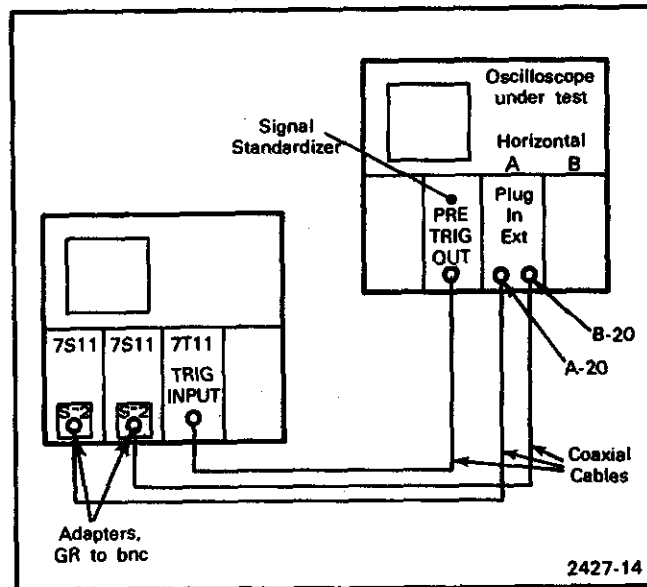

Figure 2-2. Test setup to measure step response of trigger channel.
3. Use two short, equal-length coaxial cables with bnc connectors to connect the A-20 and B-20 female connectors in the plug-in extender to the S-2 Sampling Heads in the 7S11 Sampling Units (A-20 to the left 7S11). Use GR-to-bnc adapters to connect the cable to the S-2 heads. Connect the PRETRIG OUT signal from the Signal Standardizer to the Trig Input connector of the 7T11 Sampling Unit. Figure 2-2 shows the connections.